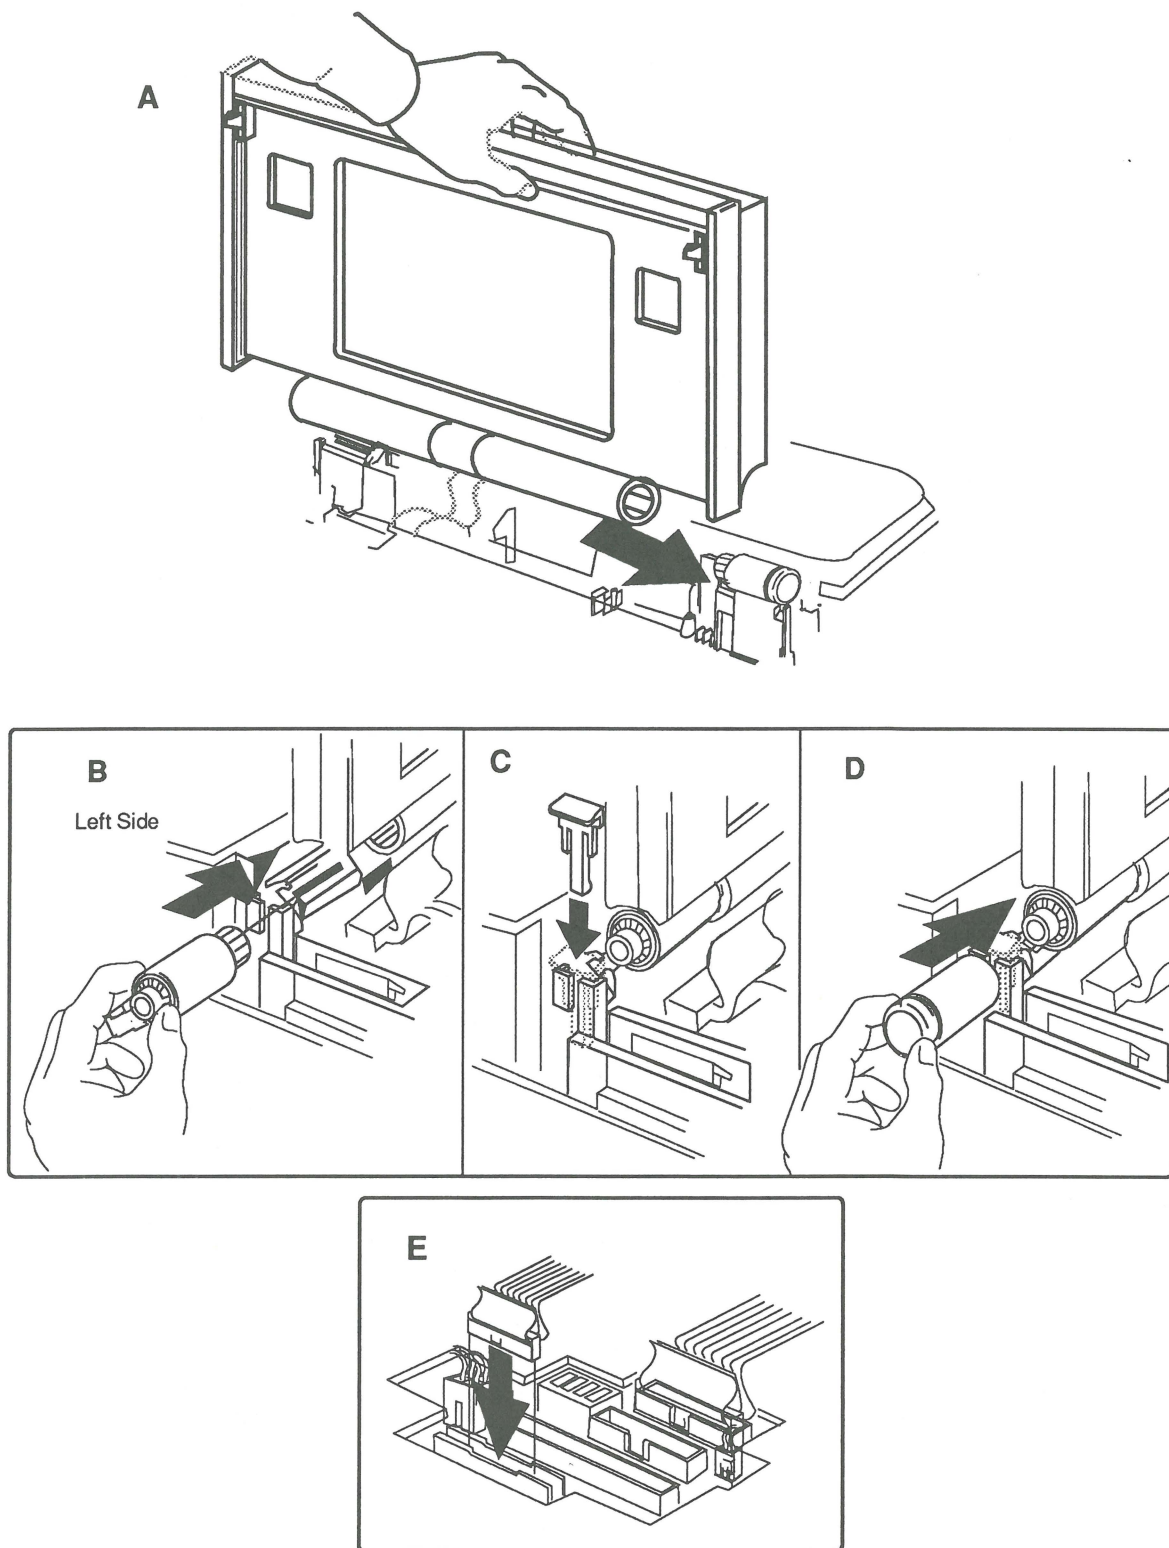

FIGURE 12
1. **Figure 12-A.** Hold the display assembly upright and slide the assembly onto the right clutch mechanism. Note that the ridges in the clutch must mate with the grooves in the display housing.
2. **Figure 12-B.** While still holding the display assembly upright, slide the left clutch mechanism into place. Again the ridges in the clutch must mate with the grooves in the housing.
3. **Figure 12-C.** Slide the left clutch retainer into position.
4. **Figure 12-D.** Replace the left clutch cover.
5. **Figure 12-E.** Connect the display cable to logic board connector J19.